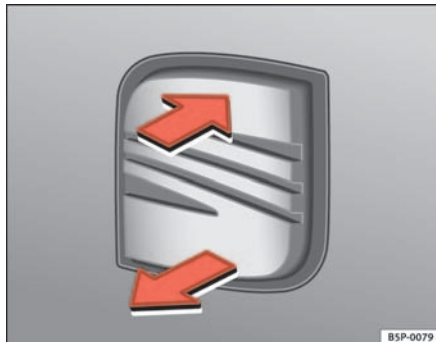
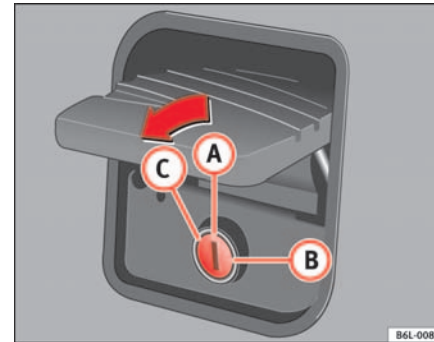

Fig. 49 Tailgate: Opening from the outside
Fig. 50 Closing the tailgate
- Pull on the release lever and lift the tailgate ⇒ fig. 49. The keyhole should now be in a vertical position ⇒ fig. 50 **a**.
When the keyhole **a** ⇒ fig. 50 is in a vertical position, the tailgate will open and lock automatically using the central locking system. Also, the tailgate may be opened and locked using a key.
When the keyhole is horizontal **b** ⇒ fig. 50, if the tailgate is closed it remains locked and can only be opened again using the main key.
To open the tailgate the key must be turned all the way **C** ⇒ fig. 50, in the direction of the arrow. In this position the key may not be removed from the lock.